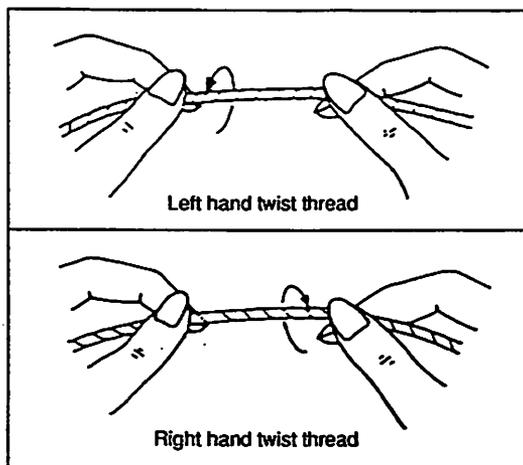

Fig. 78
The hooks are automatically lubricated. Adjust the amount of oil lubricated by screw ❶ located outside of the hooks. Turning the screw to the clockwise will reduce and to the counterclockwise will increase the amount of oil. Hold a piece of paper about 1 cm away from the hook and operate the machine for about 10 seconds, and the splash of oil will gather on the paper as shown in Fig. 78 if the adequate amount of oil is lubricated to the hooks.
(3) Needles